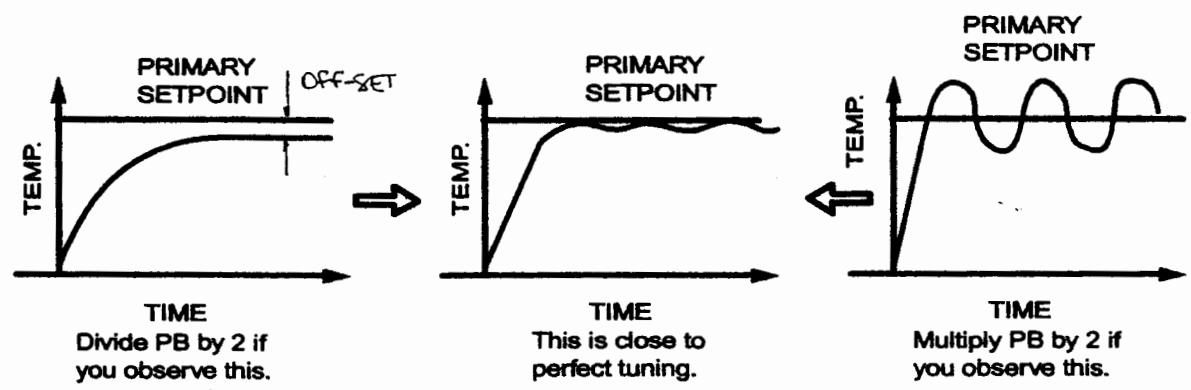

Figure 1. Temperature Oscillations
4. If there are no regular oscillations in the temperature, divide the PB by 2 (see Figure 1). Allow the process to stabilize and check for temperature oscillations. If there are still no oscillations, divide the PB by 2 again. Repeat until cycles or oscillations are obtained. Proceed to Step 5.